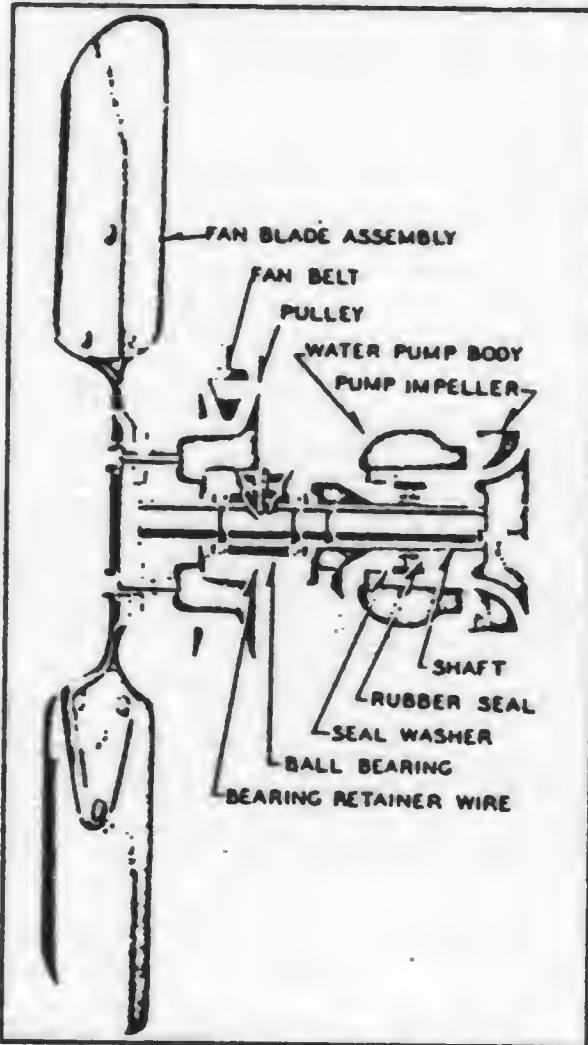

FIG. 34 FAN AND WATER PUMP ASSEMBLY
(1) *Description.*—The fan and water pump, (Fig. 34), are mounted on the same shaft. The pump is of the centrifugal type and circulates the water in the cooling system.
**a. General.**—The relays on the control panel require no attention under normal conditions. All relays are of direct-current type. In case of failure of any relay the power unit may be operated temporarily by starting manually. The functioning of the relays is explained in paragraphs 25 and 26. By referring to wiring diagram (Fig. 34) and using it in connection with paragraph 26 the various relay circuits may be checked and any relay trouble may thus be traced to a certain relay. Substitute a new relay for the one suspected of being at fault, and observe whether the condition is corrected. The battery charging relay may be repaired, if necessary. A defective start, ignition or stop relay should be replaced with a new one.